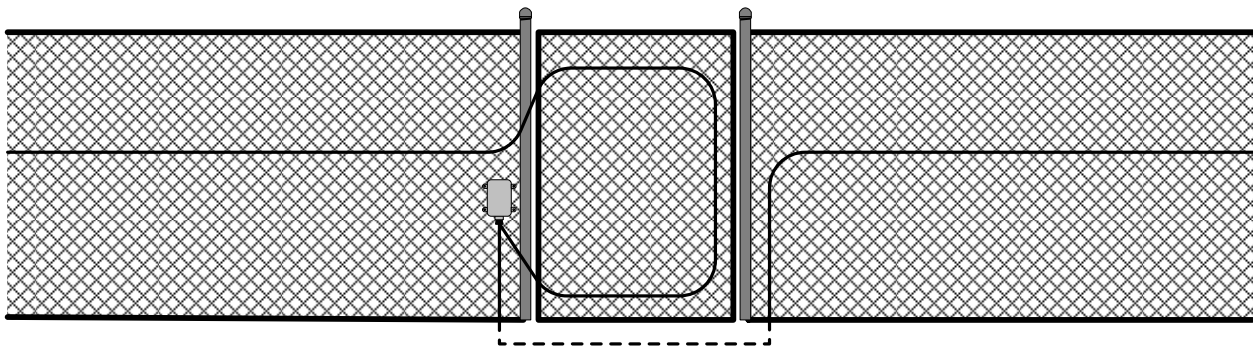

Figure 4.5 - MicroPoint Cable on a Small Swing Gate
For small swing gates the MicroPoint Cable should be attached to the gate as shown in Figure 4.5. This figure also shows a Splice Unit (SU) which is used for ease of installation. A Splice Unit (SU) is used when the gate occurs more than 50 feet (15 meters) from the end of a cable to avoid pulling long lengths of cable through the conduit.